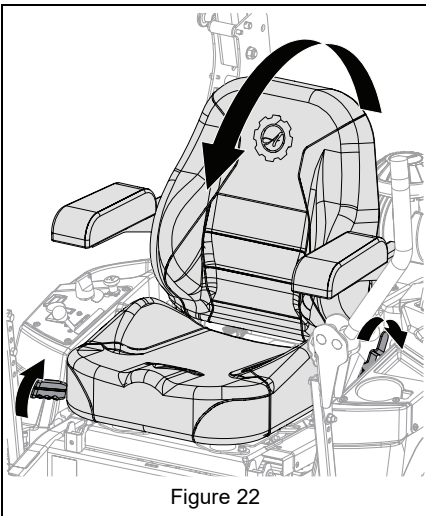

Figure 22
7. *Model 991158:* Pull seat latch and rotate seat forward. See Figure 22.